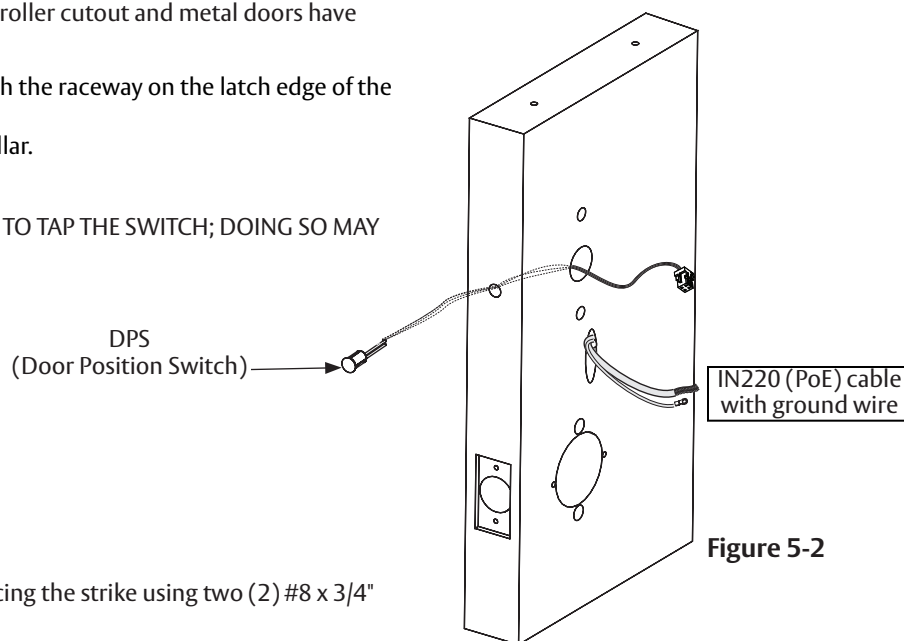

Figure 5-2
1. Insert connector end of DPS through the raceway on the latch edge of the door (Figure 5-2).